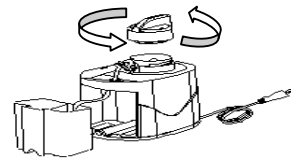

Fig 3
3. Remove the nozzle to the water heater tank by turning it counterclockwise. Fig 3.